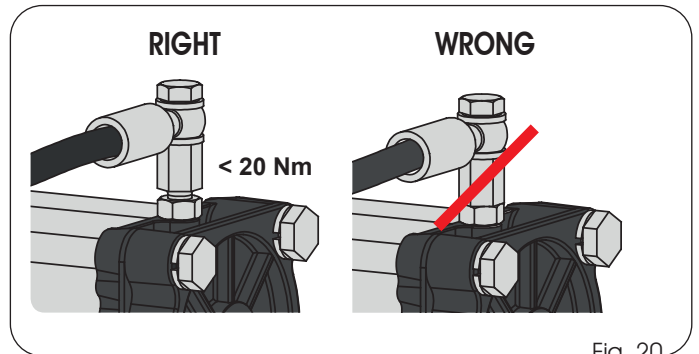

Fig. 20
5. Next with a wrench still on the union bolt, spin the set nut down by hand and then snug it down to 20 Nm. Reference Fig. 20 for the correct visual of the installed union bolt with set nut.